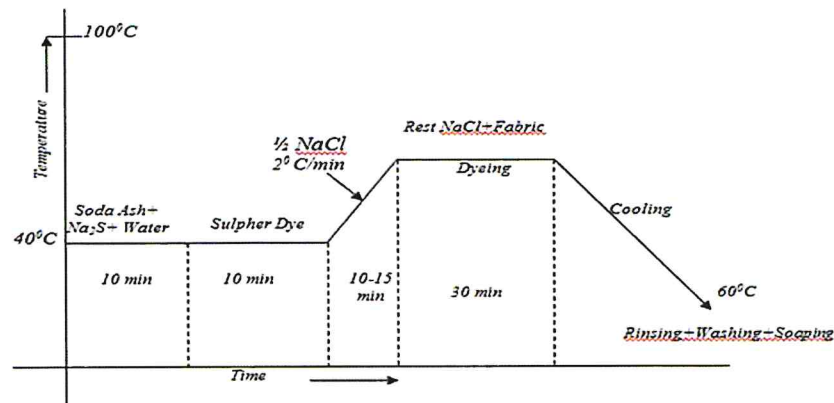

Figure 2.1 / Rajah 2.1
- (c) Explain the process involve in the dyeing curve as shown in figure 2.1